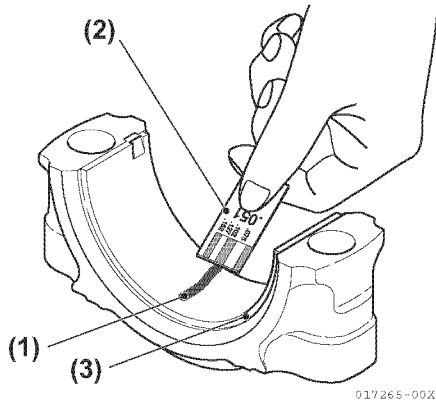

Figure 5-99
- Remove the connecting rod and measure the plastic gauge with measuring paper (Figure 5-99).